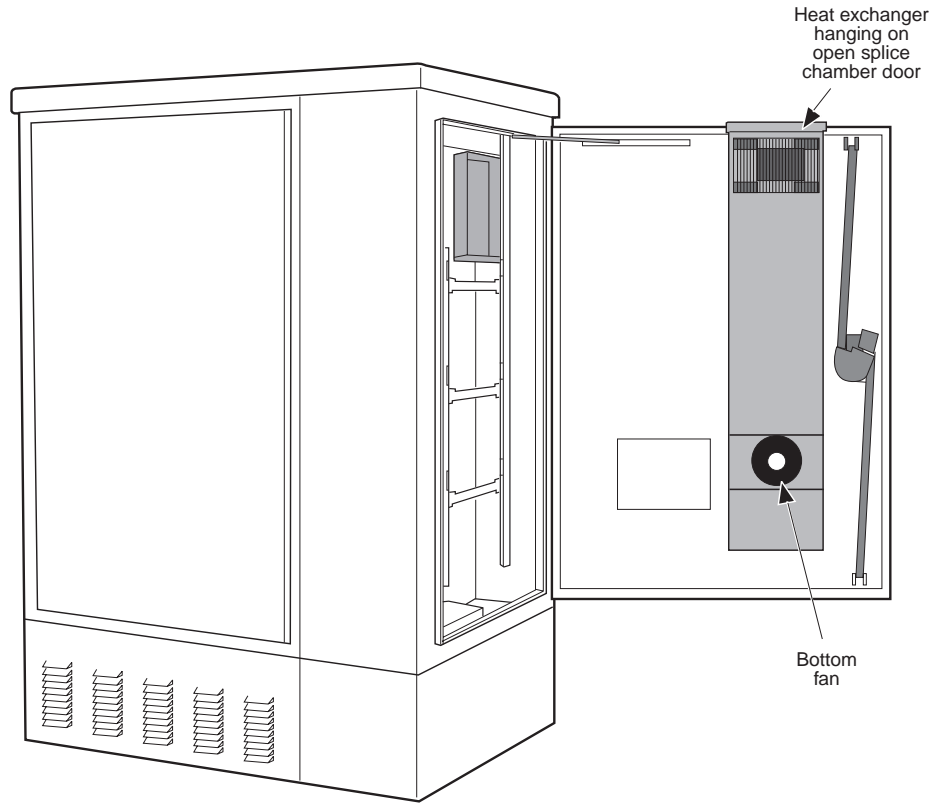

Figure 50. Heat Exchanger Supported on End Chamber Door
- 6 Hang the heat exchanger on the inside of the open end chamber door, between the map pocket and the door rods as shown in Figure 50 on page 63.